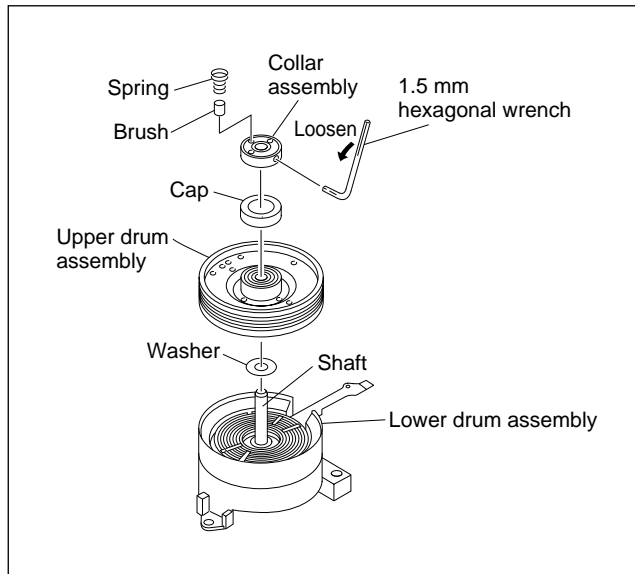

Fig. 2-2-25a
- (2) Install a new washer and upper drum assembly on the drum shaft. (See Fig.2-2-25a.)